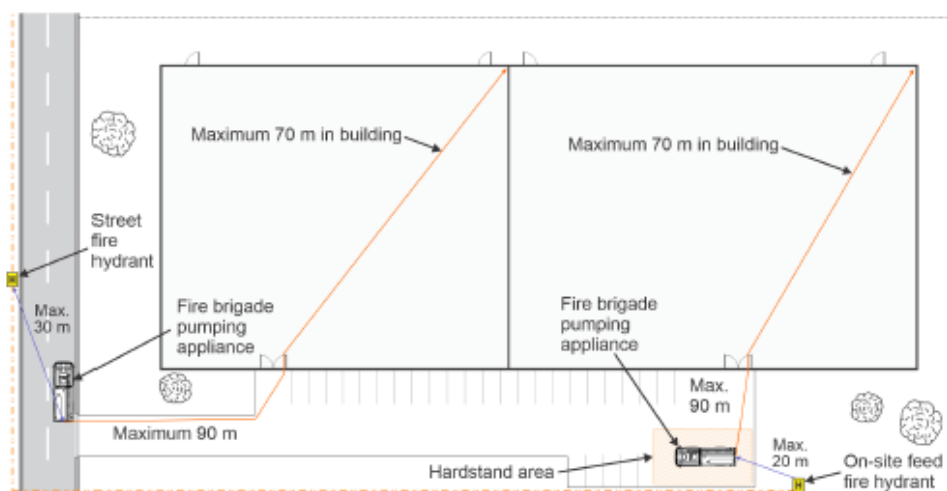

Figure 4 Example of fire hydrant coverage from street fire hydrant and on-site feed fire hydrant
- 6.2.5 An external on-site feed fire hydrant combined with one street fire hydrant can be used to provide fire hydrant coverage to all portions of floor area of the premises (see Figure 4).